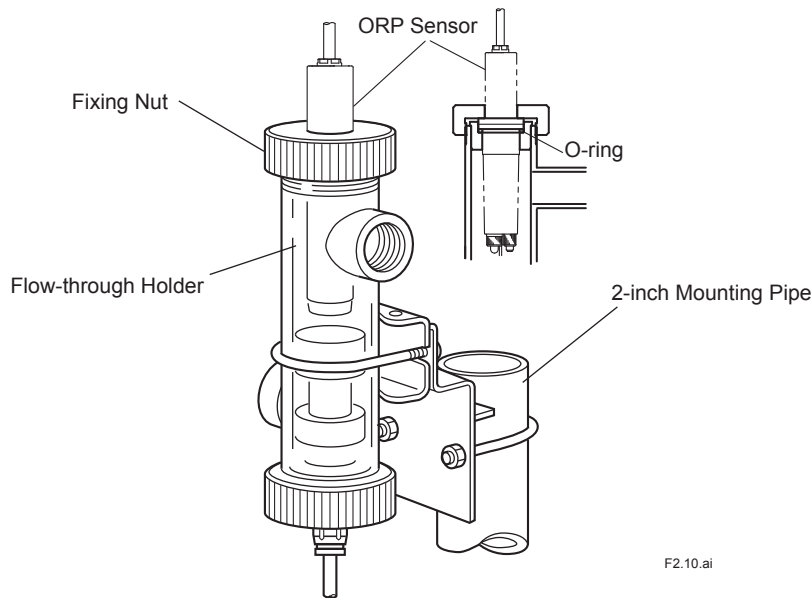

Figure 2.10 Installing Sensor in Flow-through Holder
- (2) Connect the ORP Sensor to its holder. Remove the protective cap from the sensor. Also remove the protective foam piece (for shipping - this is not necessary after installing the sensor) from the holder. Be sure that the liquid junction and indicator electrode are mounted properly. Insert the sensor tip into the holder and tighten the sensor fixing nut securely (see Figure 2.10).